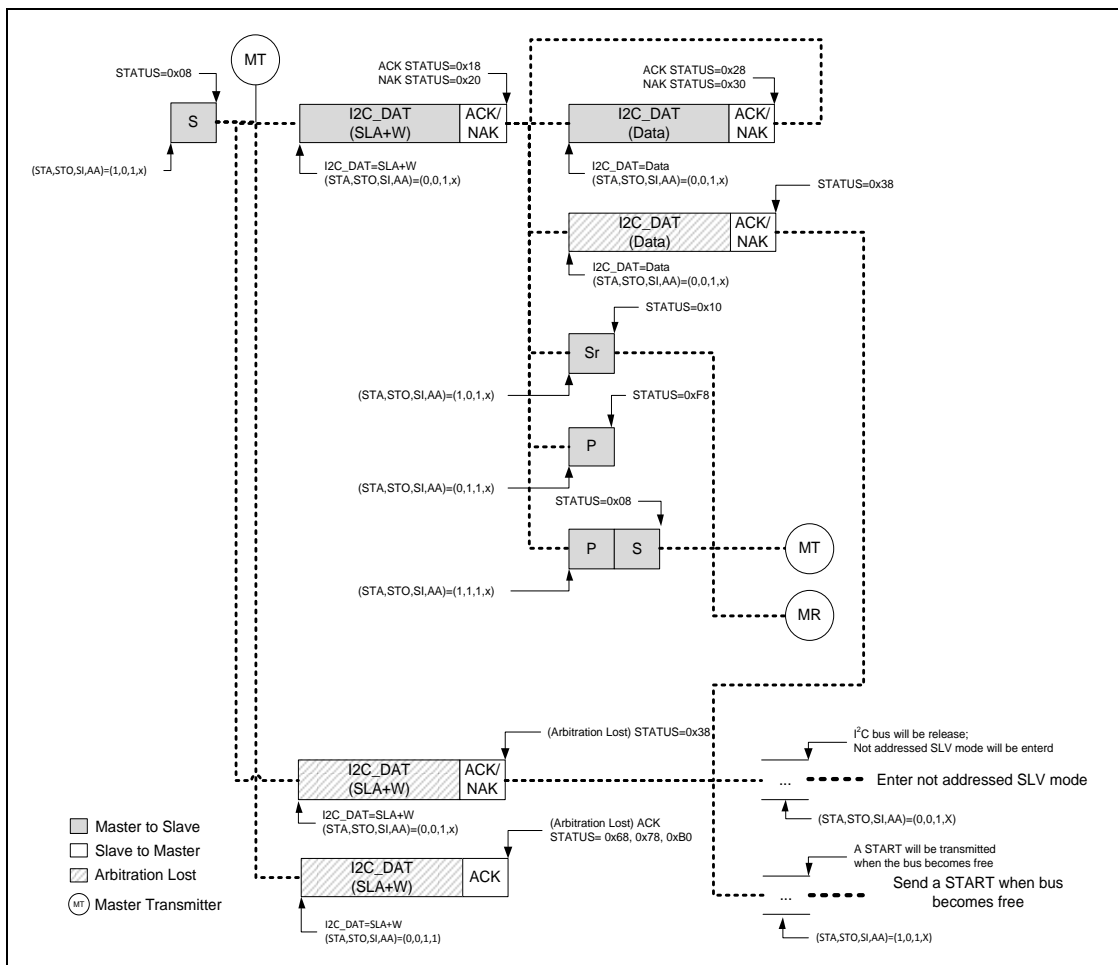
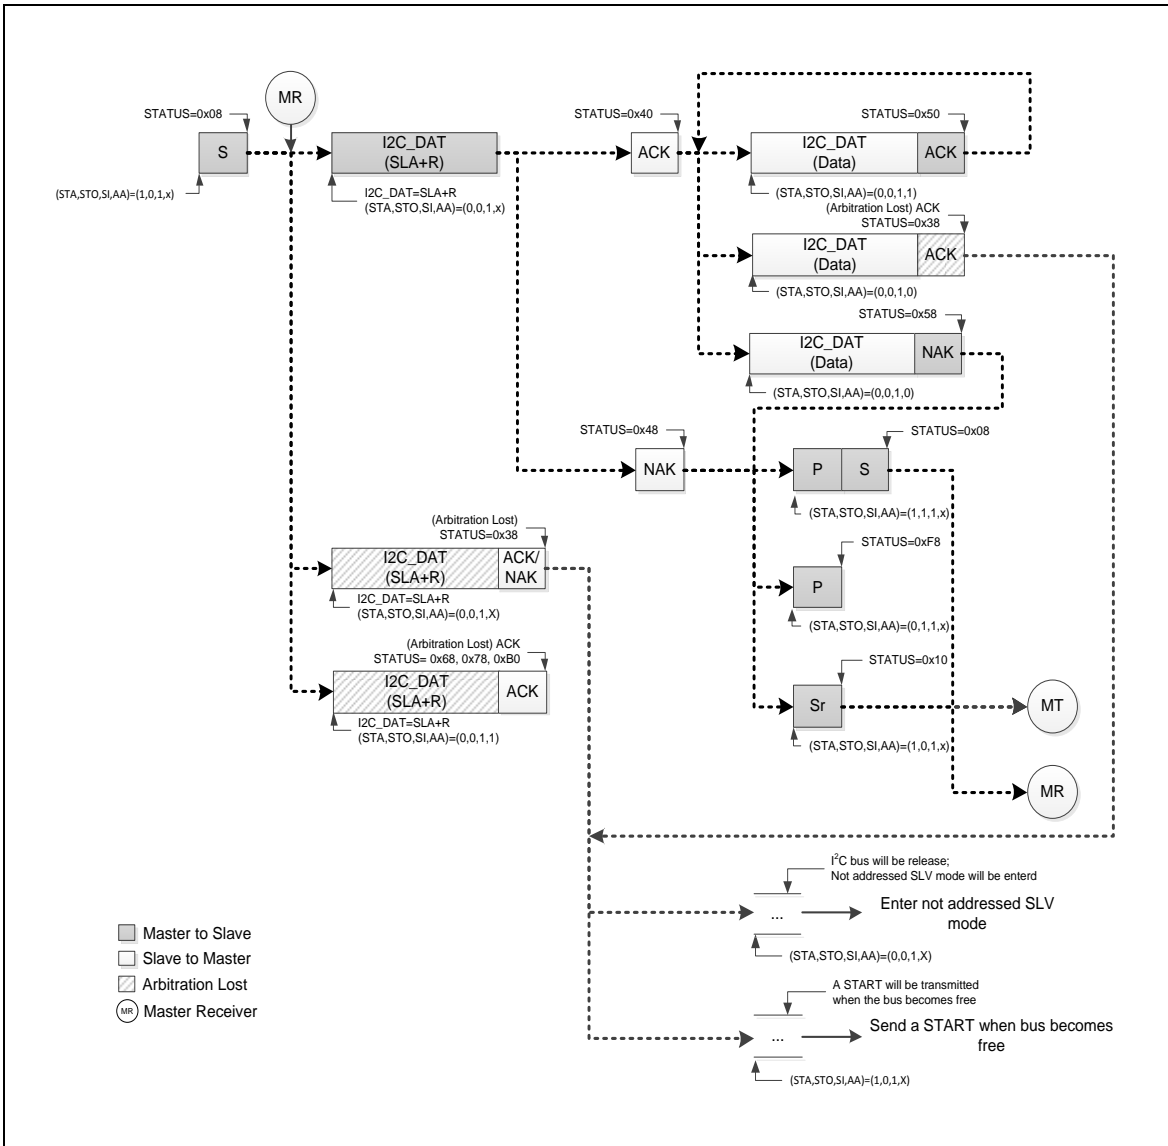

Figure 6.15-10 Master Transmitter Mode Control Flow
Figure 6.15-11 Master Receiver Mode Control Flow
In Figure 6.15-10 and Figure 6.15-11, all possible protocols for I2C master are shown. User needs to follow proper path of the flow to implement required I2C protocol.
In other words, user can send a START signal to bus and I2C will be in Master Transmitter (MT) mode (Figure 6.15-10) or Master receiver (MR) mode (Figure 6.15-11) after START signal has been sent successfully and new status code would be 0x08. Followed by START signal, user can send slave address, read/write bit, data and Repeat START, STOP to perform I2C protocol.